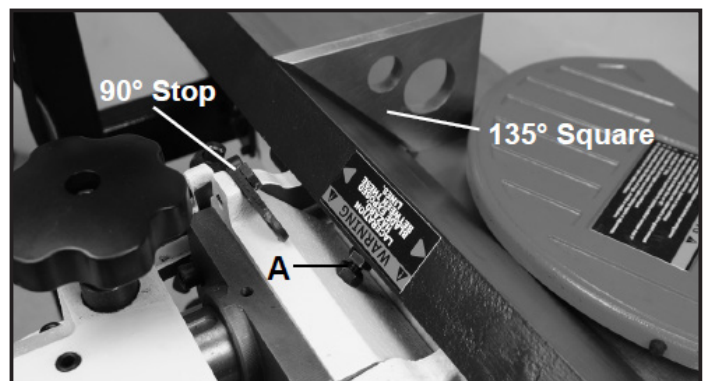

FIG.6.7.2
- To check the 135 degree setting flip the 90 degree stop tab away from the 90 degree stop bolt. Put a square on the table with one end against the fence and adjust the fence until it is exactly 135 degrees to the table. FIG. 6.7.2.
- Loosen the locking nut with a 13mm hex wrench and adjust the stop bolt (A) until a 135 degree setting is reached. Tighten the locking nut to retain the adjustment. FIG. 6.7.2.